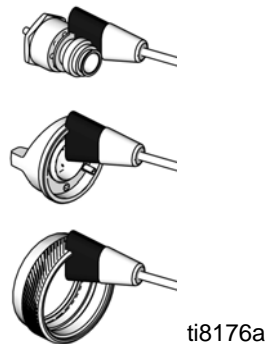

Fig. 15: Clean air cap, ring and fluid nozzle
11. Scrub the air cap retaining ring, air cap, and fluid nozzle with the soft-bristle brush (see FIG. 15). To clean out air cap holes, use a soft implement, such as a toothpick, to avoid damaging critical surfaces. Clean the air cap and fluid nozzle daily, minimum. Some applications require more frequent cleaning.